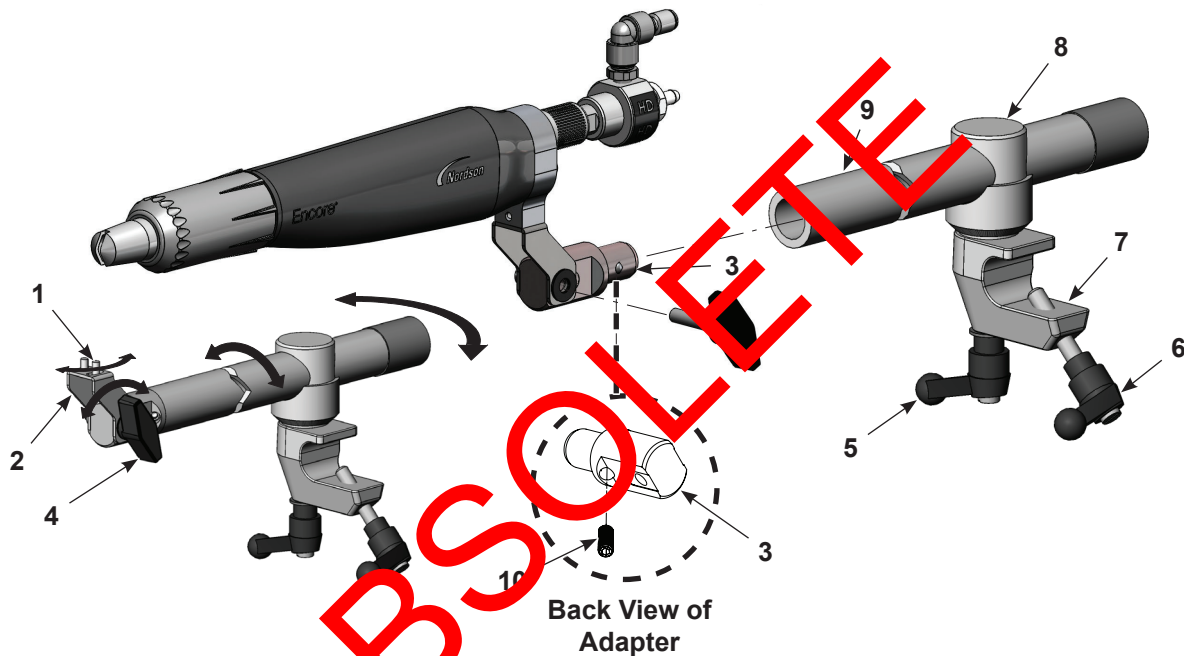

Figure 3-2 Bar-Mount Spray Gun Mounting
See Figure 3-2. Install the spray gun bar-mount adapter (3) into the end of the adjusting rod (9) and secure it by tightening the set screw (10) with a 4-mm hex key.
- To move the spray gun tip from side to side, loosen the right button screw (1).
- To tilt the spray gun tip up or down, loosen the tilt knob (4).
- To rotate the adjusting bar on the locking body (8) axis or in the locking body, loosen the rotate handle (5).